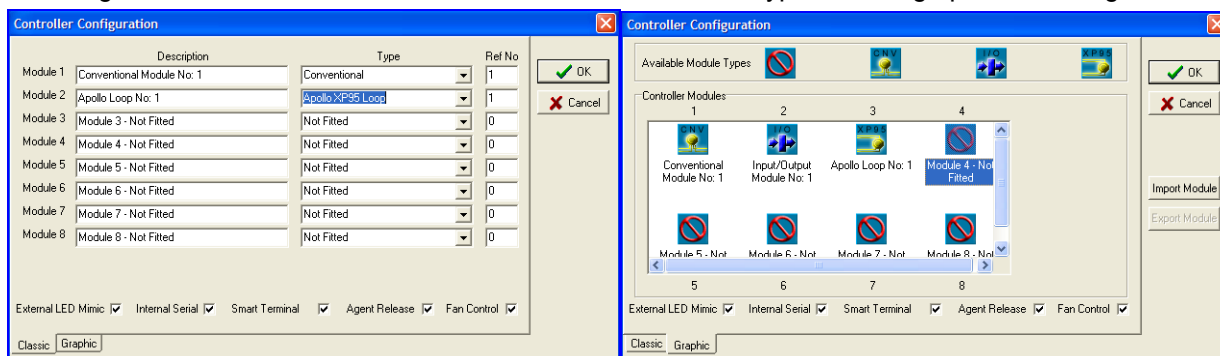

Figure 107: The Controller Edit / Add Module Types Screens
See Figure 107
- A loss of communications with the FACP (indicated by the “DIAGNOSTIC” LED – not flashing and the “no communications” message being displayed. See Figure 107)